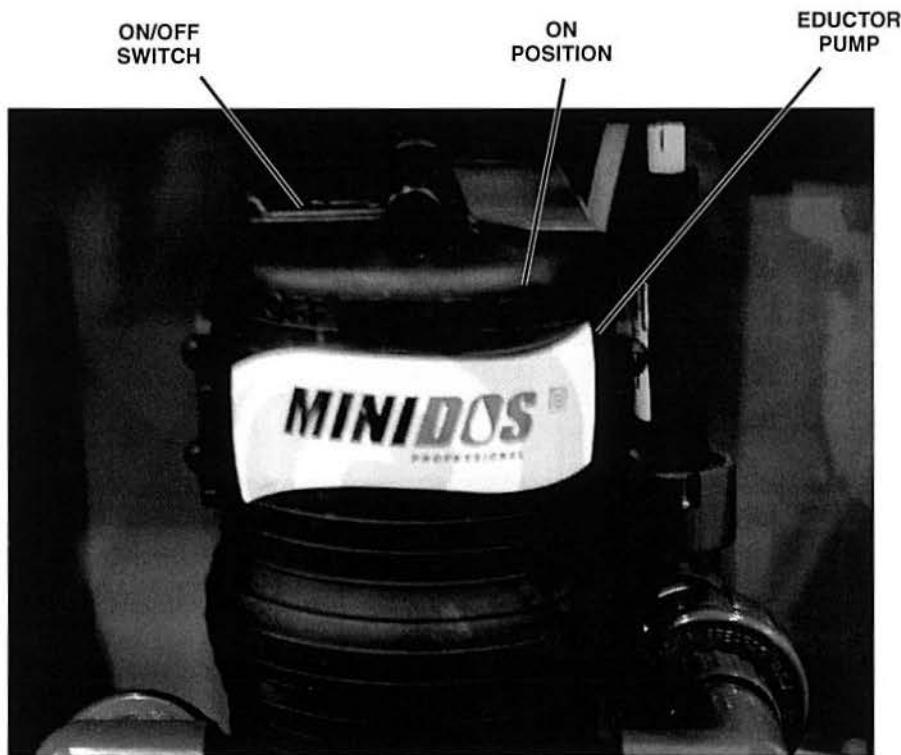

Figure 60. On/Off Switch on Eductor Pump
- 6. Toggle to the setpoint (SP) display and set it to **7.0**.
- 7. Make sure the On/Off switch on the eductor pump, shown in figure 60, is in the On position.